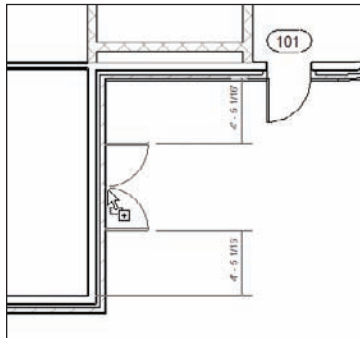

FIGURE 2.71 Placing the double doors
5. Place the double doors in the wall, as shown in Figure 2.71.